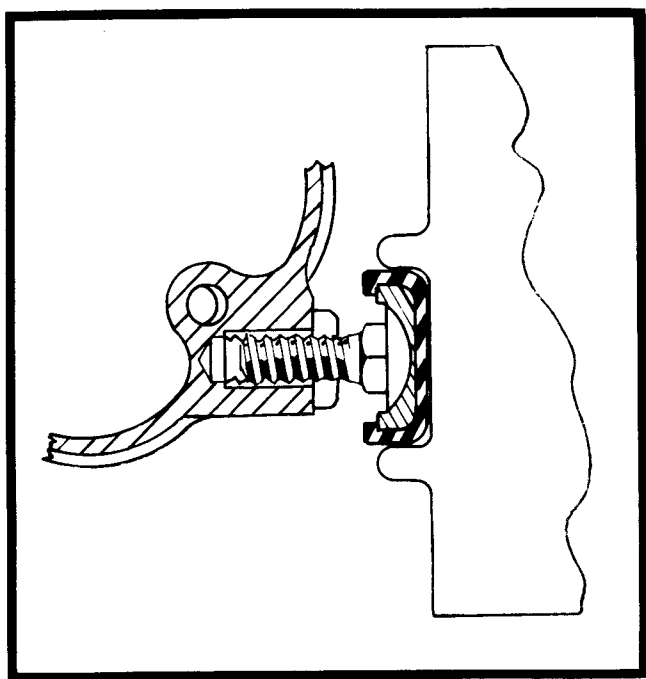

Figure 8-6. Installing Oil Cooler Support.
b. Apply a film of Tite Seal compound to both sides of gasket (14). Install gasket and oil cooler (13) and secure with eight sets of attaching parts (12, 11, 10).
c. Install a new gasket (16), plug (15) and temperature control valve (17). Secure valve and plug with lockwire.
d. Install shoe (87) in groove in oil cooler. Adjust bolt by backing it into shoe until shoe just contacts cooler (see Figure 8-6). Preload by adjusting bolt 2/3 turn further toward cooler and lock in place. After engine run-in, readjust to above setting.